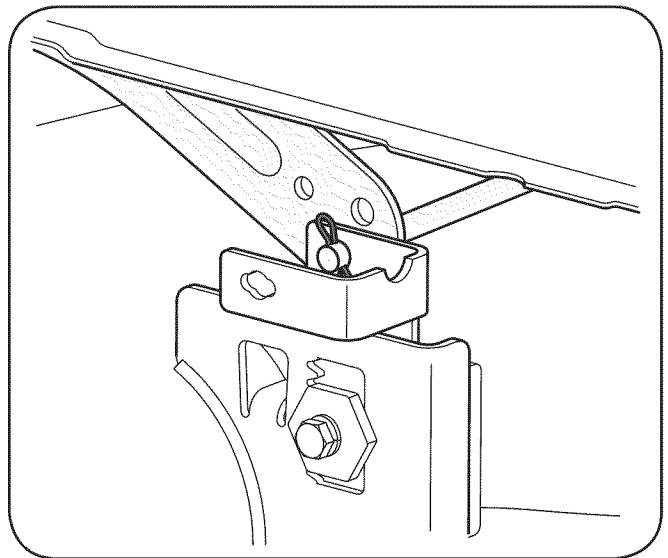

Figure 7-3
6. **On 42" Decks:** Remove the bow-tie cotter pin securing the deck lift rod to the deck. Slide the deck lift rod from the mounting weldment on the deck as seen in Figure 7-3.